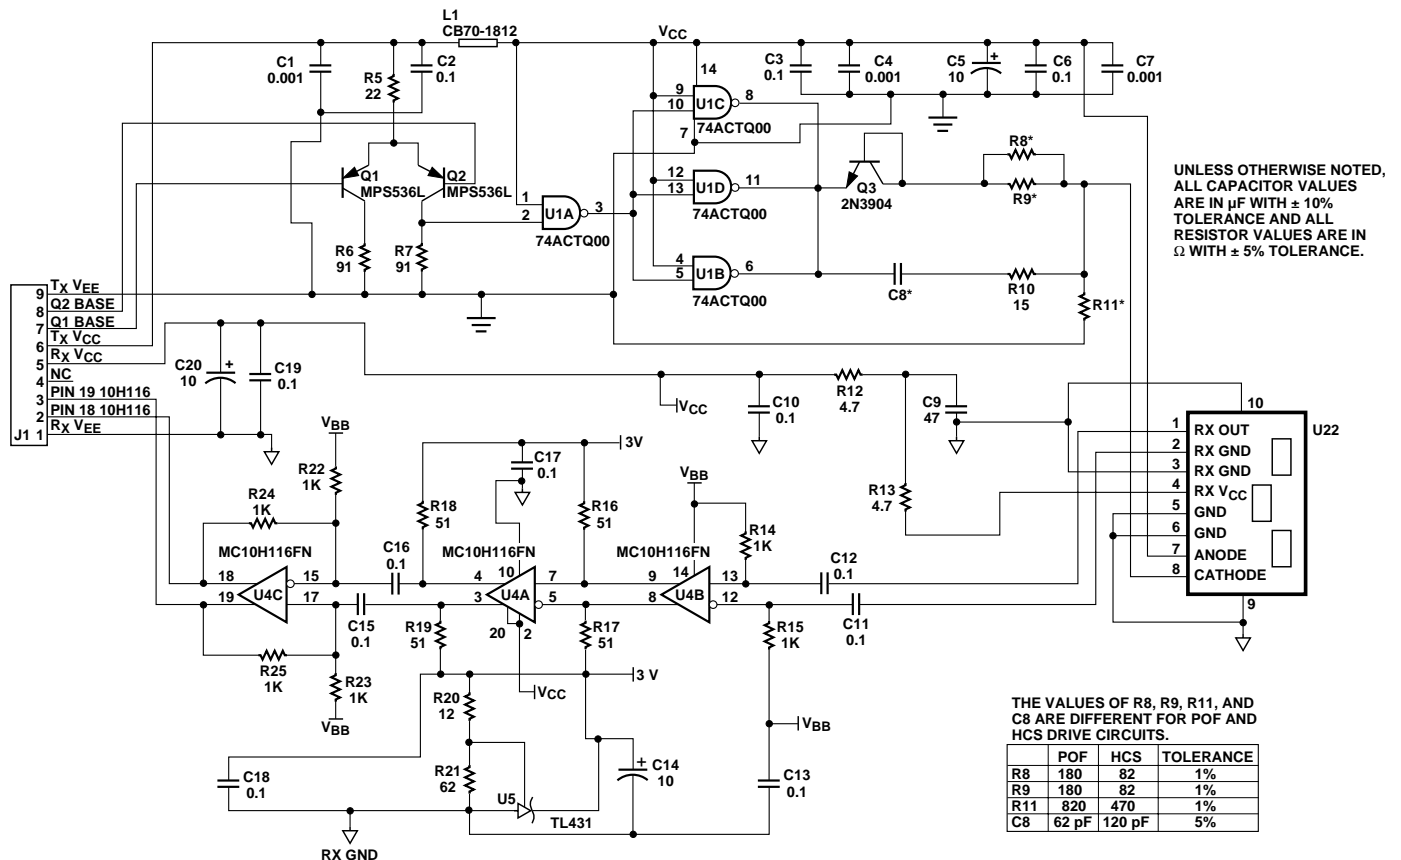

Figure 1. Transmitter and Receiver Application Circuit with +5 V ECL Inputs and Outputs.
the recommended applications circuits shown in Figure 1. This circuit has been optimized for 125 MBd operation. The Applications Engineering Department in the Hewlett-
**Recommended Operating Conditions for the Circuits in Figures 1 and 2.**
- If the output of U4C in Figure 1, page 4 is transmitted via coaxial cable, terminate with a 50 Ω resistor to VCC - 2 V.
Performance of the transmitter in the recommended application circuit (Figure 1) for POF; 1-125 MBd, 25°C.
**Hard Clad Silica Fiber (200 μm HCS) Transmitter Application Circuit:** Performance of the transmitter in the recommended application circuit (Figure 1) for HCS; 1-125 MBd, 25°C.
Performance[4] of the receiver in the recommended application circuit (Figure 1); 1-125 MBd, 25°C unless otherwise stated.
**Electrical/Optical Characteristics** 0 to 70°C; 5.25 V ≥ VCC ≥ 4.75 V; power supply must be filtered (see Figure 1, Note 2).
- Pins 9 and 10 are primarily for mounting and retaining purposes, but are electrically connected with the conductive housing. Pins 5 and 6 are electrically unconnected. It is recommended that pins 5 and 6 be connected to Rx ground to reduce coupling of electrical noise. Refer to Figure 1. The connections between pins 1 and 2 of the HFBR-5527 and pins 13 and 12 of the MC10H116 should be adjacent and nearly the same length to maximize the common mode rejection of the MC10H116 to eliminate cross talk between the transmitter and receiver.